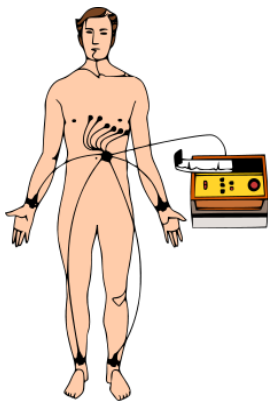

Fig. 3.9
**Heart emits a small amplitude electrical signal which can be measured by using a measuring tool called as ECG.** The electrocardiogram (ECG or EKG) is a diagnostic tool that is used to assess the electrical and muscular functions of the heart as shown in fig. 3.9.